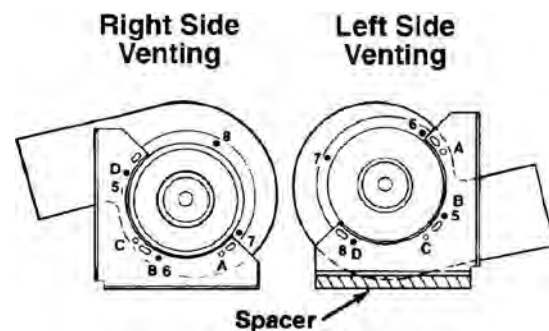

Figure 17
4. Relocate the mounting brackets on the blower housing as shown in figure 17.
- a. **Right side venting (figure 17).**
- b. **Left side venting (figure 17).**
5. Attach the blower housing to the floor with the outlet towards the direction of the venting and the inlet towards the front of the cabinets. In addition, for left side venting, a spacer of approximately 1-1/2" thick x 9" long (3.81 cm x 22.86 cm) is required under the mounting bracket flanges of the blower assembly (see figure 17).